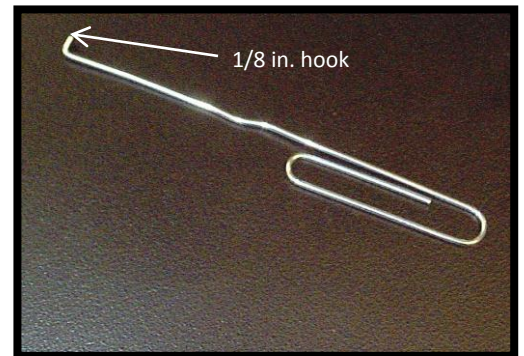

Figure 42: Paper Clip tool for removing Brake
3. Unbend the outer tine of a paper clip. (The 1-3/4 in. long clips work just fine!) With a needle-nose pliers, bend the end of the paper clip to form about a 1/8 in. hook (Figure 42).